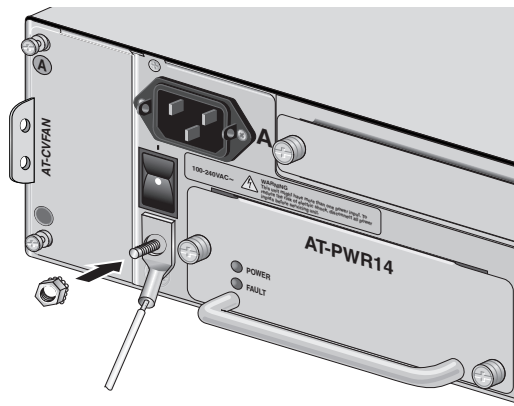

Figure 23. Securing the Ground Lug with Lock Nut
4. Secure the ground lug with the lock nut you removed in Step 2, as shown in Figure 23.